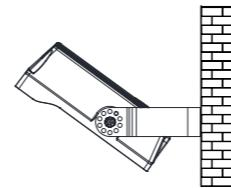

figure 2.4
Step 3: Loosen screw; Adjust fixture angles as per actual demands and tighten screws later (figure 2.4). Tips: Angles of the fixture is adjustable.